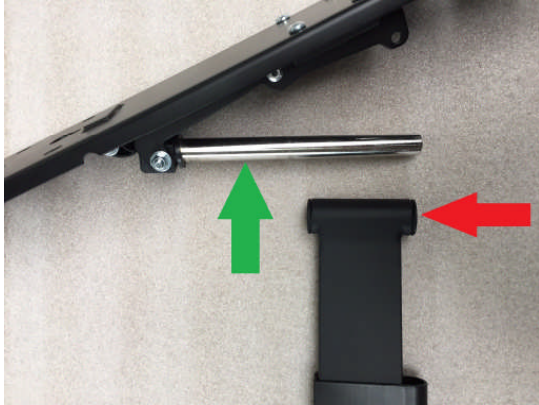

Fig. 3
- 5) Pull the axle (Fig 3, green arrow) out of the socket (Fig 3, red arrow) on the end of the extension arm.